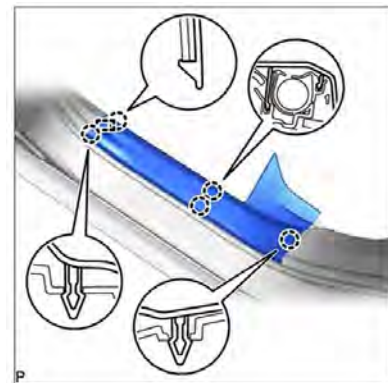

Figure 7
9. Disengage the 5 claws and guide to remove the rear door scuff plate, LH (Figure 7).